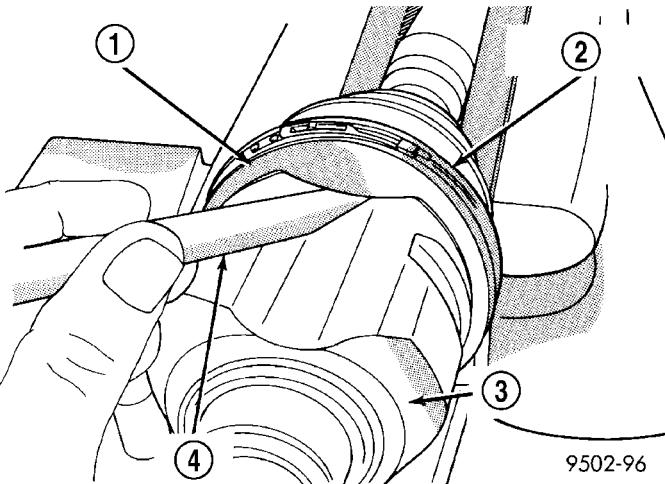

Fig. 39 Trim Stick Inserted for Venting Tripod Joint
(9) Insert a trim stick between the tripod joint and the sealing boot to vent inner tripod joint assembly (Fig. 39). **When inserting trim stick between tripod housing and sealing boot, ensure trim stick is held flat and firmly against the tripod housing. If this is not done, damage to the sealing boot can occur.** If inner tripod joint has a Hytrel (hard plastic) sealing boot, be sure trim stick is inserted between soft rubber insert and tripod housing, and not the hard plastic sealing boot and soft rubber insert.